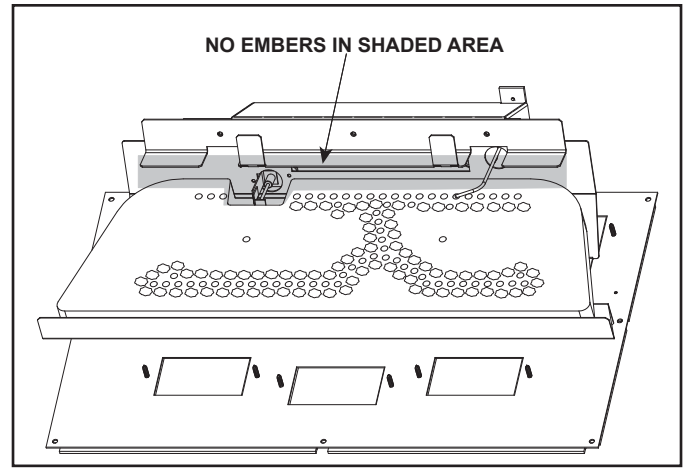

Figure 6.6. Placement of Embers
- Embers may only be placed in areas as shown in Figure 6.6.